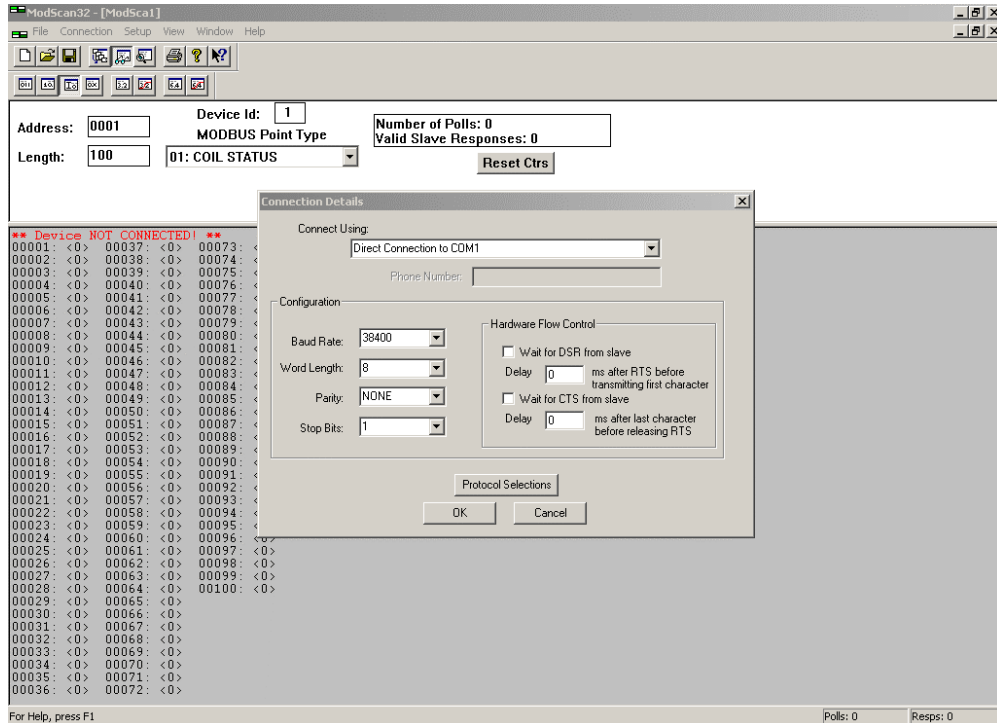

FIGURE 16. FT-10 NETWORK CONNECTION DETAILS DIALOG BOX
1. From the tool bar, select Connection → Connect. The Connection Details dialog box is displayed (see Figure 16). The Device ID is 1.
shown in Figure 16. Use the pull down menus to change these settings as necessary.